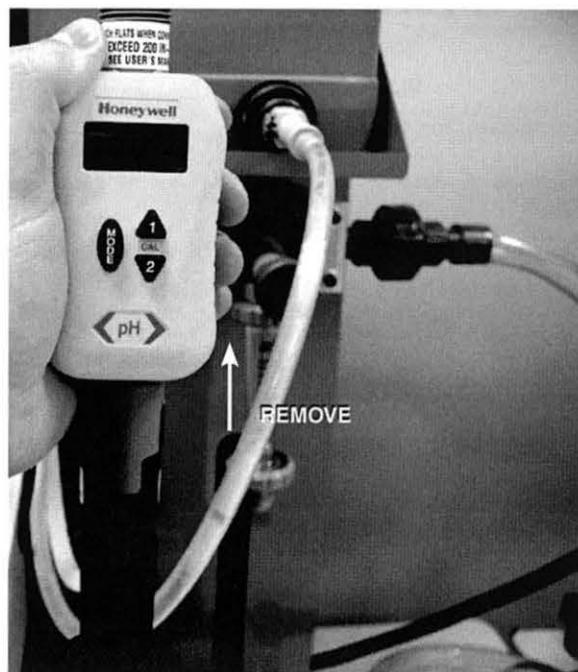

Figure 60. Removing the Indicating Transmitter
- 4. If the Durafet II electrode has the indicating transmitter connected to it, as shown in figure 60, remove the indicating transmitter by loosening the securing screw (on back) and lift the transmitter up and off the electrode. Leave the communication cable connected to the transmitter and set the transmitter to the side.